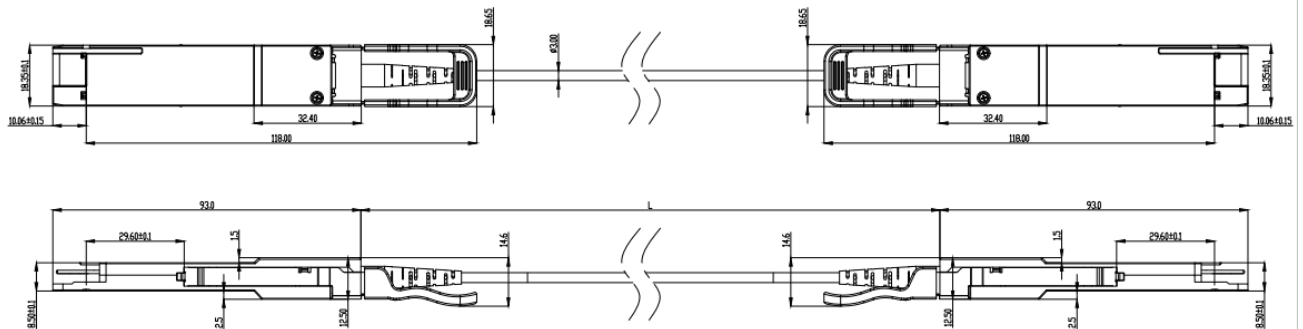

**Figure 1: QSFDD Module pad layout**
4. Plug Sequence specifies the mating sequence of the host connector and module. The sequence is 1A, 2A, 3A, 1B, 2B, 3B. (see Figure 1 for pad locations) Contact sequence A will make, then break contact with additional QSFP-DD pads. Sequence 1A, 1B will then occur simultaneously, followed by 2A, 2B, followed by 3A,3B.